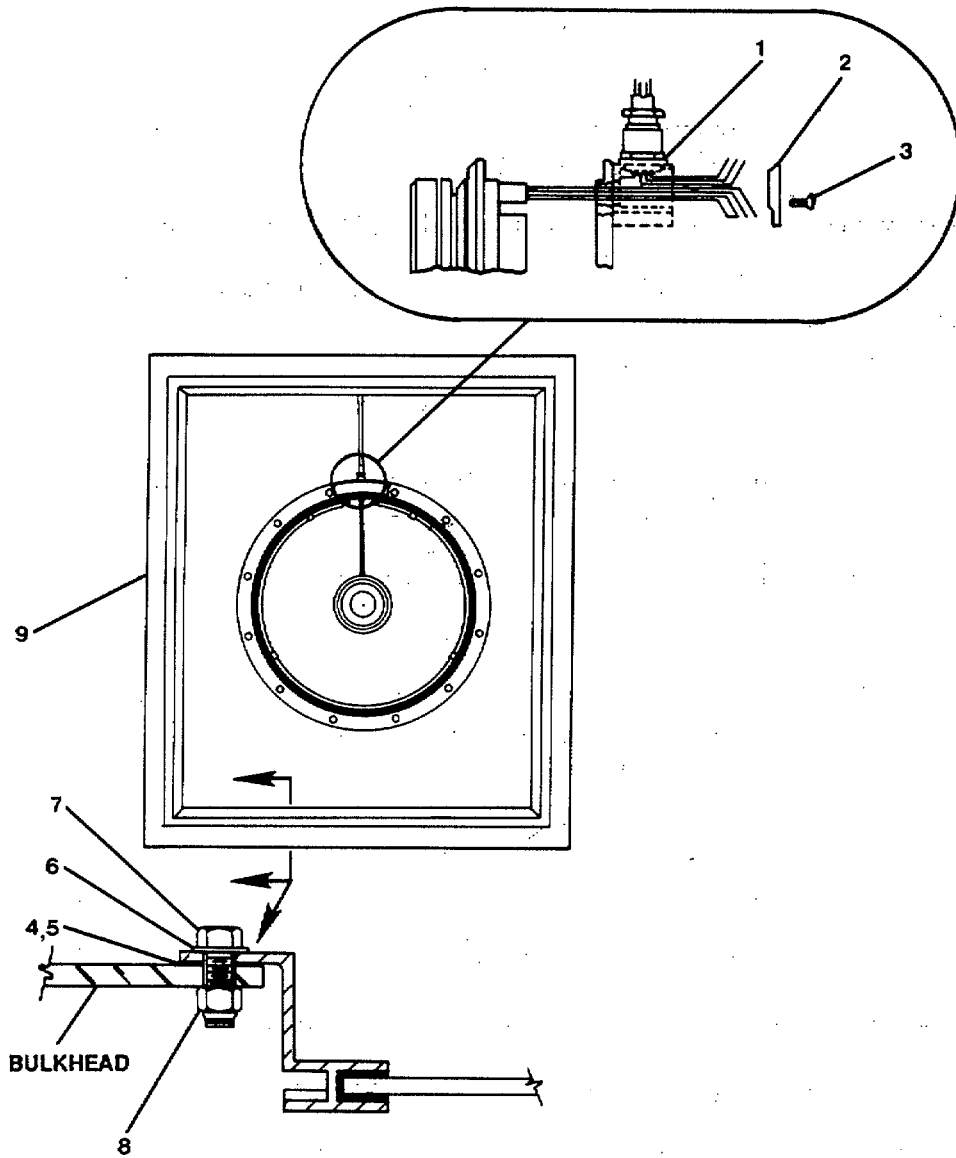

FIGURE 3-179. *Replace Fixed Window, with Rotary Window.*
- a. Remove screw (3, Figure 3-179) and junction box cover (2) from junction box (1).
- c. Remove self-locking nuts (8), capscrews (7), and washers (6) from window frame.
- (11) Install rotating glass (12) and secure using rotating cap (13).
- a. Apply sealing tape (4, Figure 3-179) and sealant adhesive (5) around bulkhead opening and window frame.